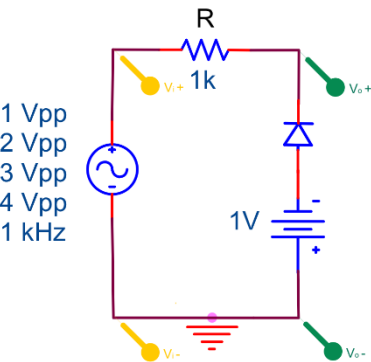

Figure 3.10
2. Construct the negative clipping circuit shown in Figure 3.10. Using the oscilloscope, measure the level at which the v_o waveform clips on the negative side of the wave form for each input voltage. Why does this level change dependent on the amplitude of the input signal?
2. Run a PSPICE simulation of the circuit in Figure 3.10 and test with 1 kHz sine wave inputs of amplitudes used in step 3 and compare with your experimental results. Compare the experimental results with those obtained in the pre-lab.